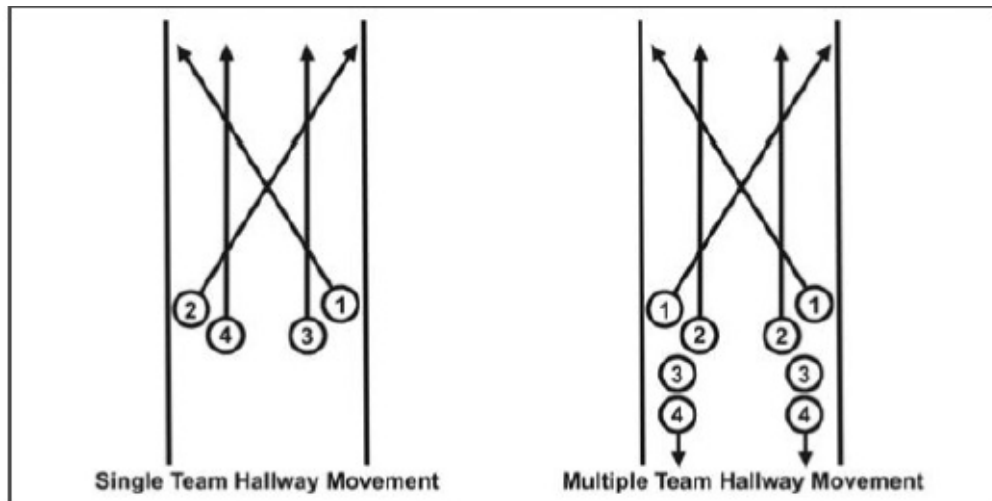

Figure 4-18. Hallway movement
- d. Hallway Movement.** Clearing team(s) move down the hallway using the frontal security (cross cover) technique (Figure 4-18.)